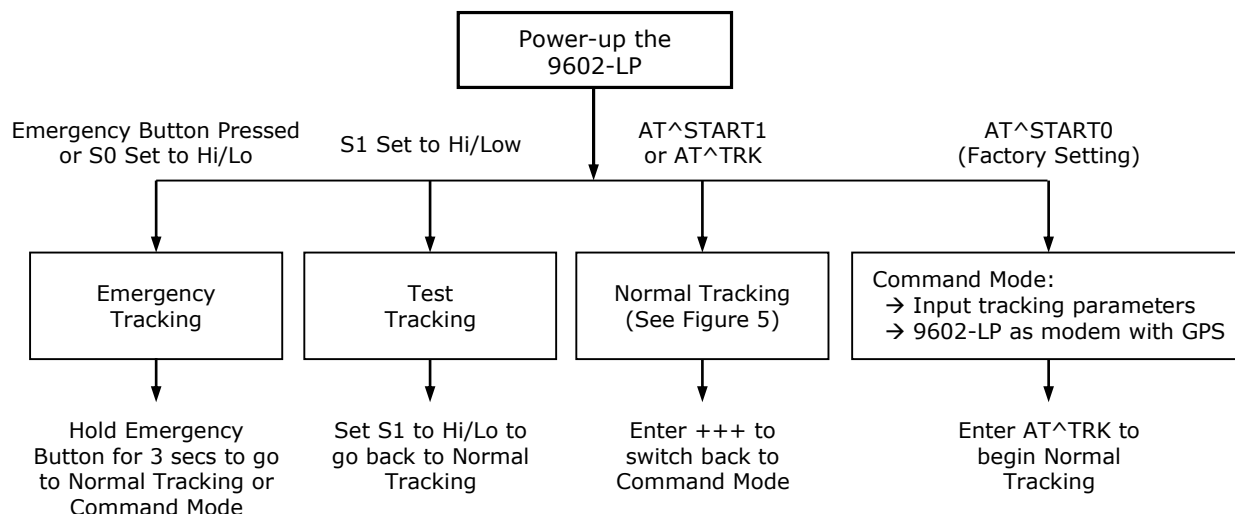

Figure 4. Different Operating Modes of the 9602-LP.
The 9602-LP can be in one of two operating modes at power up: (1) Command mode, or (2) Tracking mode. When in Command mode, AT commands can be entered to configure the 9602-LP's operating profiles or the 9602-LP can be operated as a 9602-G (standard SBD-modem with GPS). As a reminder, developers are encouraged to use SatTerm GUI software to set up the 9602-LP instead of using AT commands. When in Tracking mode, the 9602-LP automatically transmits GPS reports defined by parameters in the active operating profile (see description below). There are three different types of Tracking modes—Normal Tracking, Emergency Tracking and Test Tracking. The 9602-LP is factory-set for AT^START0 to power up in Command mode and can be reset to power up in Tracking mode by the AT^START1 command. After the 9602-LP is powered up, the AT^TRK command can be used to switch from Command mode to Tracking mode and switching from Tracking mode back to Command mode is done with the +++ escape sequence. The flow chart in Figure 4 describes operating modes of the 9602-LP.